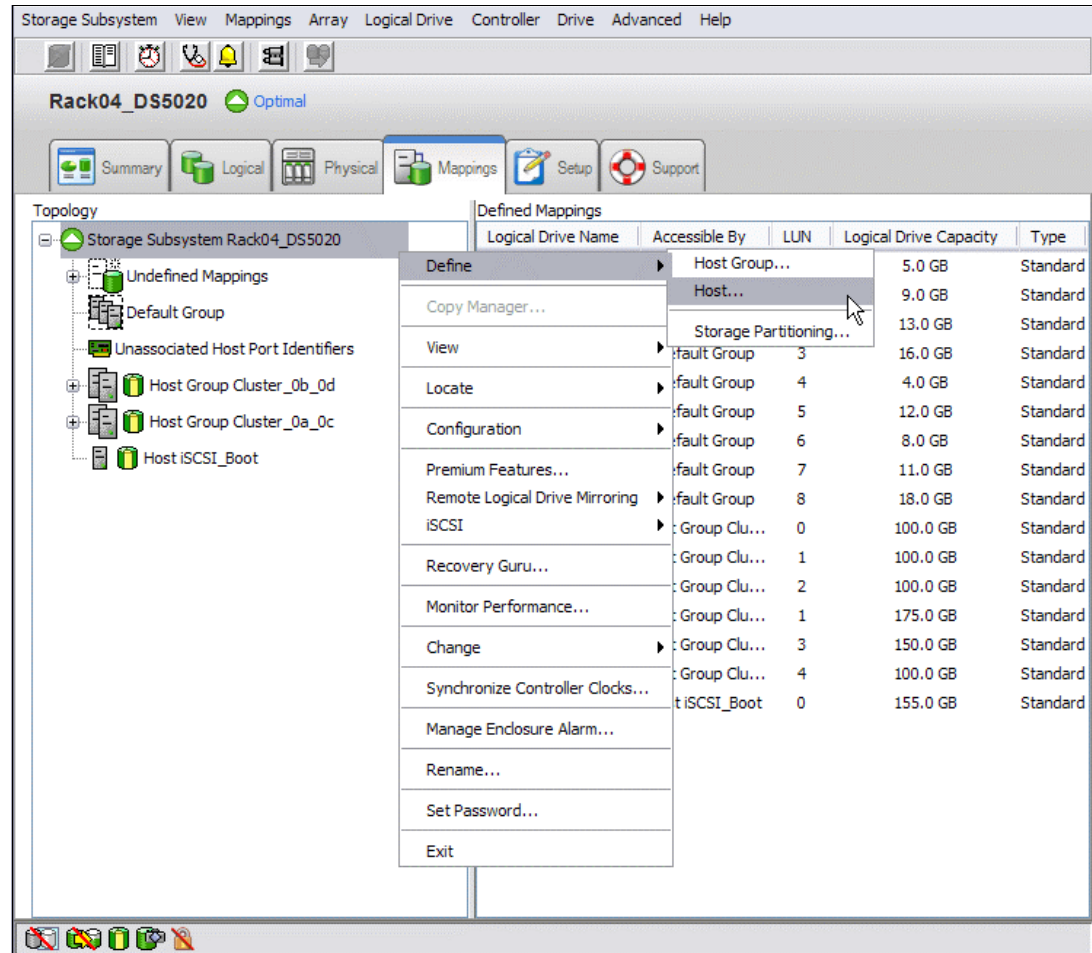

Figure 6-26 Define Host
- a. In the Storage Manager Subsystem Management window, go to the **Mappings** tab. In the **Topology** frame, right-click the storage subsystem name (top item), then **Define** → **Host...**, as shown in Figure 6-26.